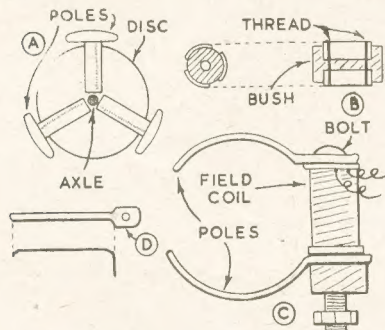

Fig. 1—How the parts are made
The armature has three iron poles spaced at 120 degree intervals round an axle and this part may be made up as shown at (A) in Fig. 1. Each of the poles is a small iron bolt (which may be obtained from an ironmonger's) with the shank sawn off. Dimensions can naturally vary considerably, but it is suggested each pole be $\frac{3}{4}$ in. long. A disc of scrap wood about $1\frac{1}{2}$ ins. in diameter is also cut.
The three poles should now be arranged as shown in Fig. 1, and may be secured to the disc with staples. Also have the axle in position projecting through a hole in the disc and support the whole on blocks so that the axle is vertical.
The brushes are shown at (D) in Fig. 1. They are cut from thin brass or similar metal and have a small hole so that they can be screwed to the wooden base of the finished motor. Remove any rough edges on brushes or commutator segments with a file. Friction will be reduced if the overall diameter of the commutator is not larger than necessary— $\frac{1}{2}$ in. in diameter is a convenient size.